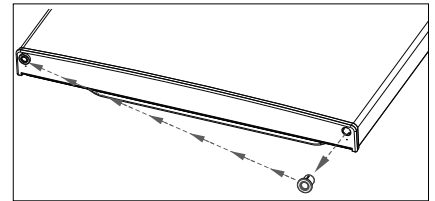

Fig. 10
- ▶ Reposition the hinge bushing on the bottom of the freezer door to the left-hand side as well (Fig. 10).